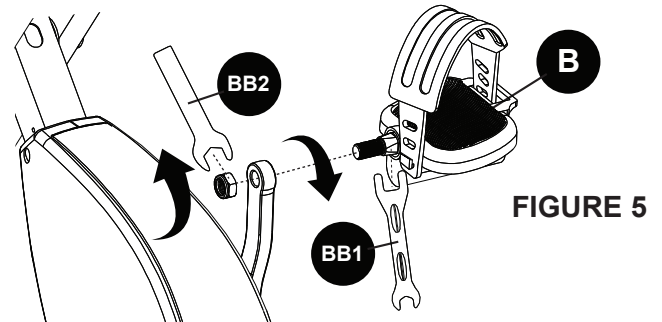

FIGURE 5
Step 5: The Right Pedal (B) (106R) is installed the same way using the supplied wrenches. (Right pedal is not reverse thread) (BB1) (BB2). **Figure 5**